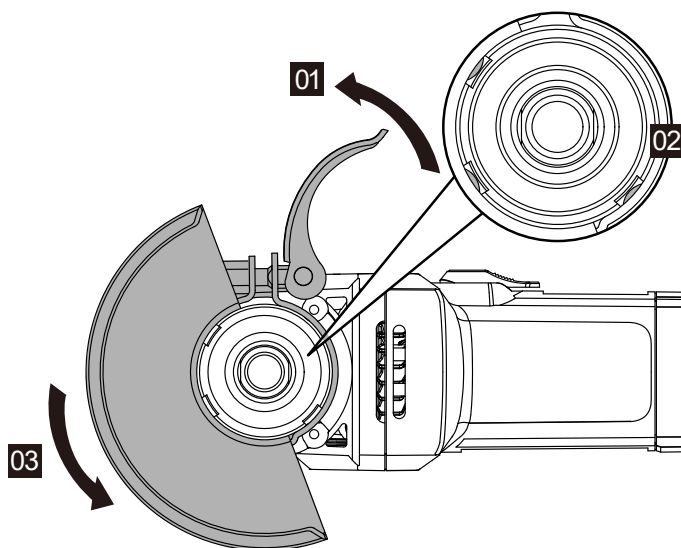

Figure 1
- Wheel guard for grinding (See Fig. 1 & 2)